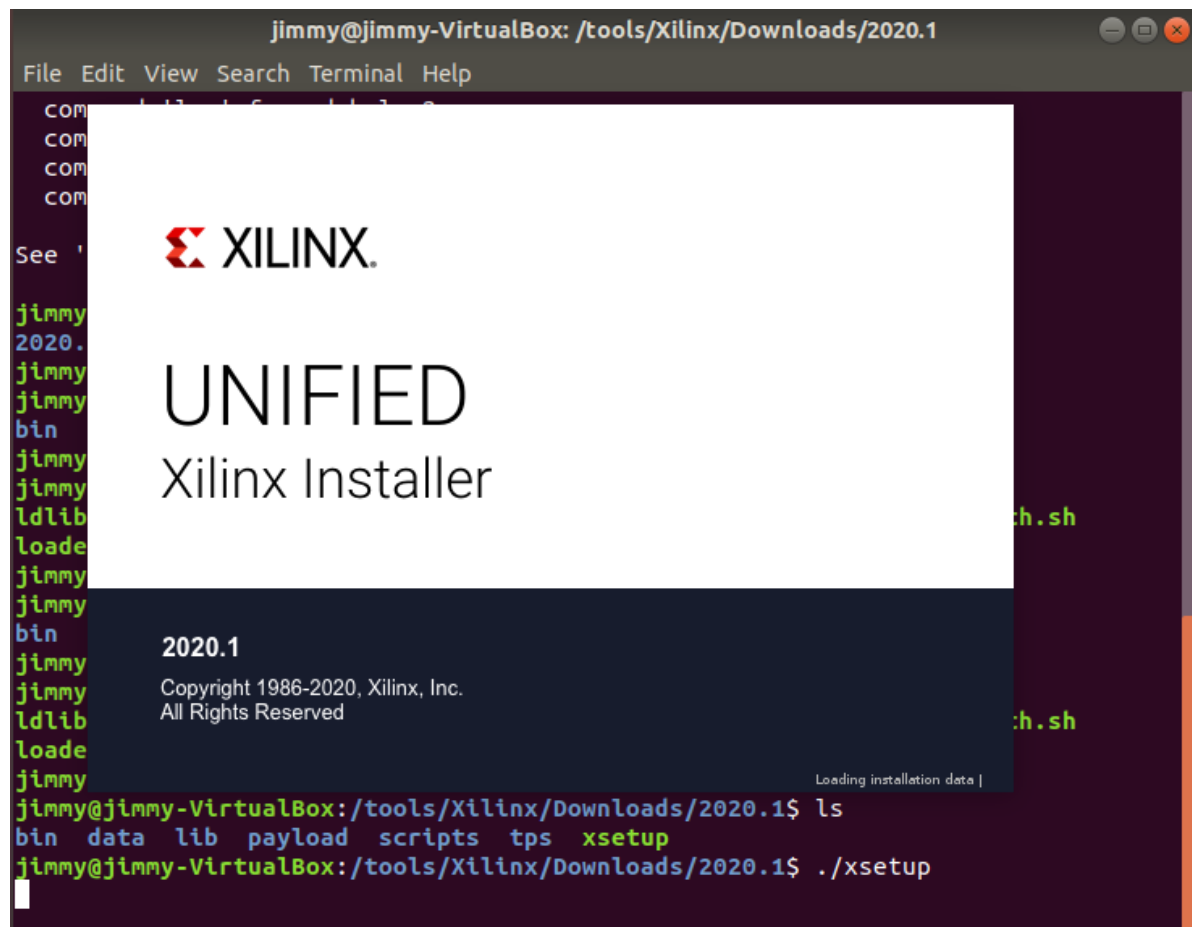

Figure 1.10
**Note:** On Linux the file is a .bin file and can be launched by running `./bin` in the shell terminal, as can be seen in [Figure 1.10][#110] .